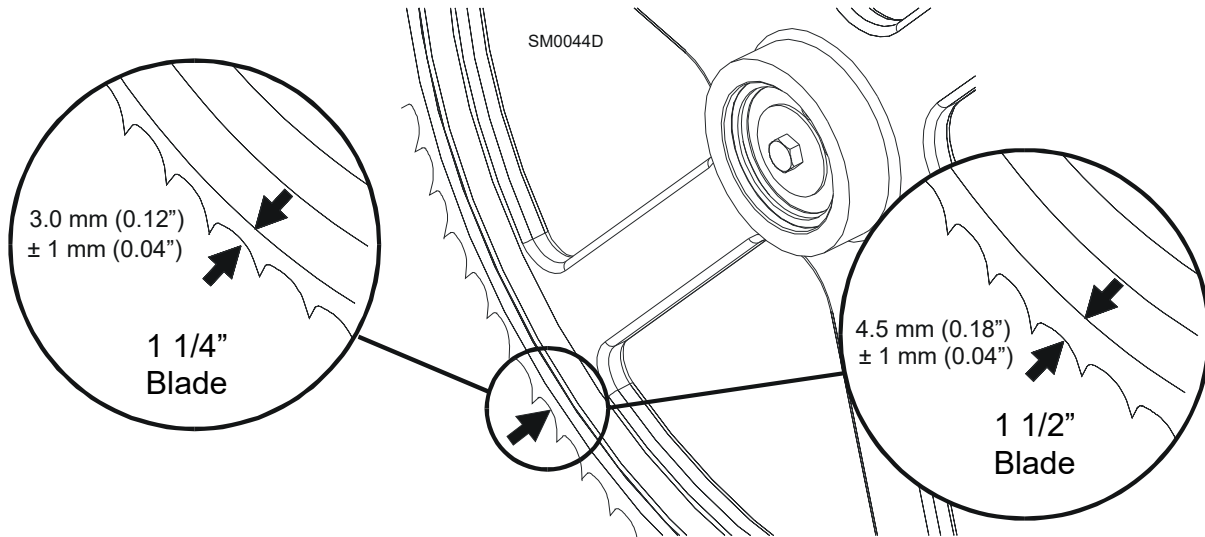

FIG. 5-2
**See Figure 5-2.** The blade wheels should be adjusted so that the gullet of 1 1/4" blades ride 3.0 mm